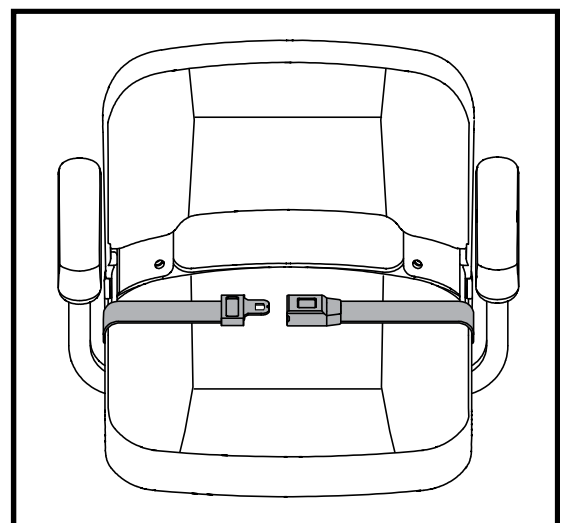

Figure 17. Positioning Belt
Your scooter seat may be equipped with an auto-type positioning belt that can be adjusted for operator comfort. See **figure 17**. The positioning belt is designed to help support the operator so that he or she does not slide down or forward in the seat. The positioning belt is not designed for use as a restraining device.
1. Insert the tab on the right side of the belt into the plastic housing on the opposite strap until you hear a “click.” See **figure 17**.